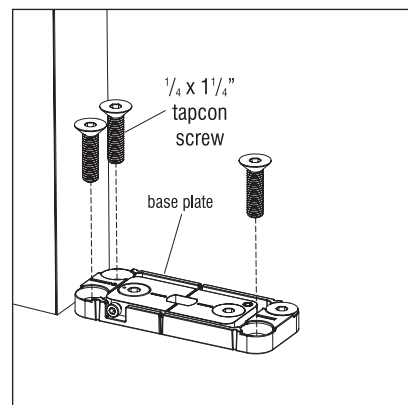

Figure 6
7. Fasten the base plate into place with rest of the $\frac{1}{4} \times 1\frac{1}{4}$ " screws (Figure 6).